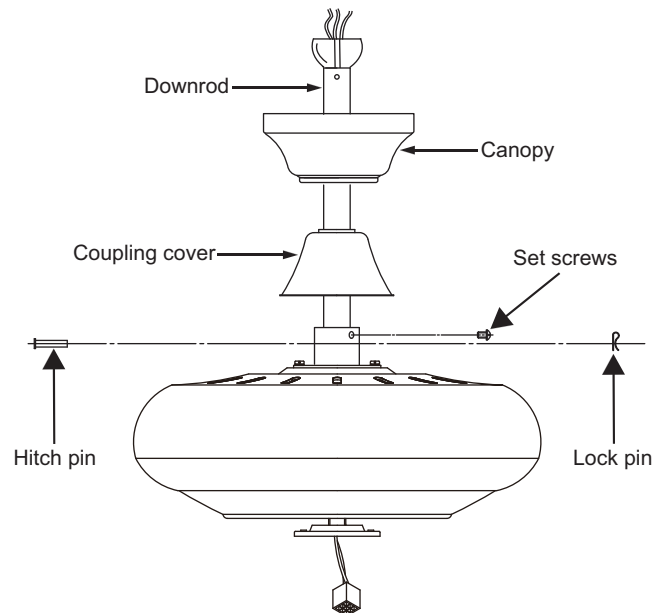

Figure 6
**Step 3.** Remove the canopy ring from the canopy. (Fig. 6)
**Step 5.** Route wires exiting from the top of the fan motor through the coupling cover and canopy and then through the ball/downrod. (Fig. 6)
**Step 6.** Align the holes at the bottom of the downrod with the holes in the collar on top of the motor housing (Fig.6). Carefully insert the hitch pin through the holes in the collar and downrod. Be careful not to jam the pin against the wiring inside the downrod. Insert the locking pin through the hole near the end of the hitch pin until it snaps into its locked position, as noted in the circle inset of Fig. 6.
**Step 7.** Tighten two set screws on top of the fan motor firmly. (Fig. 6)